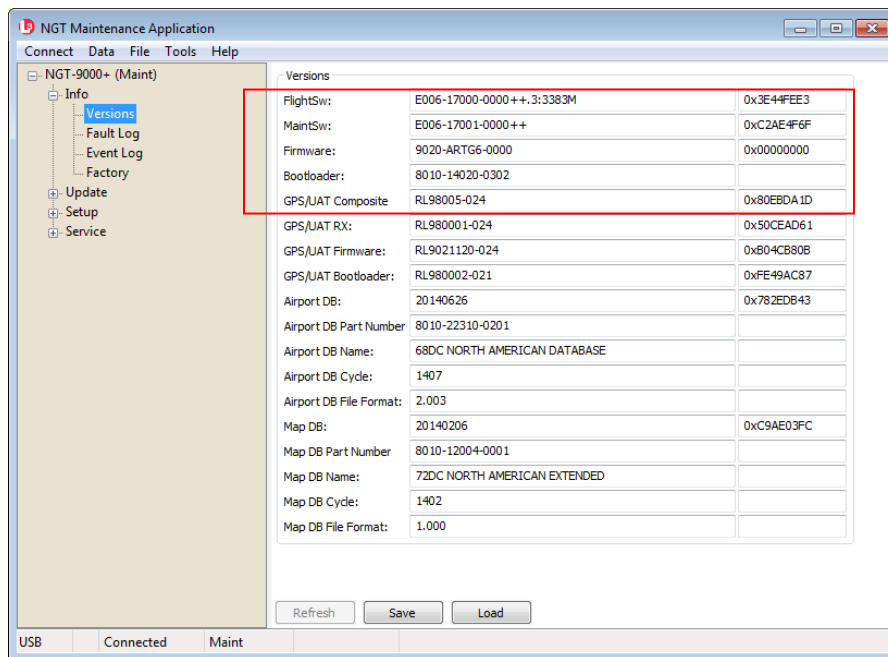

Figure 3-8: Lynx MAT – Check Versions
1. From the Lynx MAT select Info→Versions. See Figure 3-8.